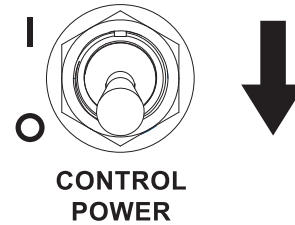

Figure 3-36. Controller Power OFF (O)
- See **Figure 3-36**. Switch controller power to OFF (O).